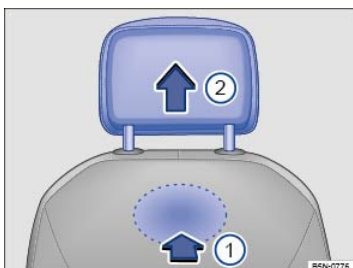

Fig. 92 Removing the front head restraints.
- On the back of the backrest, locate the release button under the seat cover and keep it pressed down ⇒ Fig. 92 ①.
- While pressing button ①, pull the head restraint out completely.